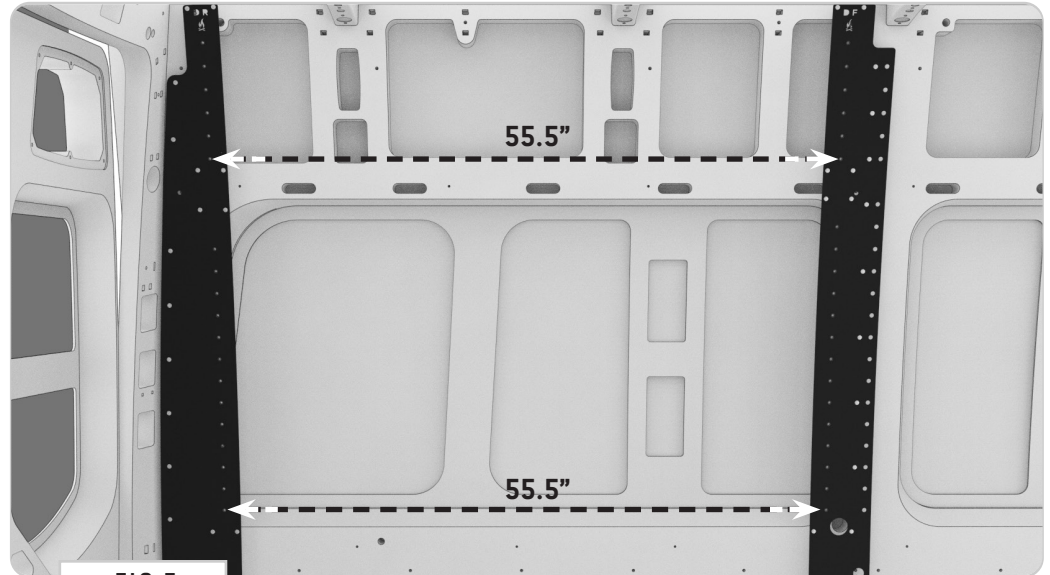

FIG 7
4.1 Measure Bracket Spacing: Once you have the Bed Brackets held in place, you'll need to confirm that the distance between rail mounting points are square at 55.5" thread insert to thread insert (**FIG 7**).